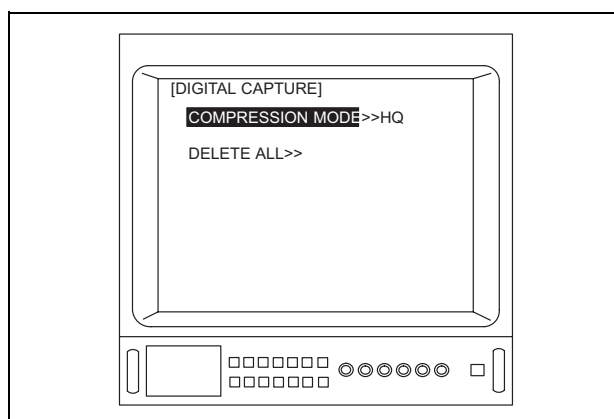

Figure 5.96
7. Depress the menu switch “↵” or the “Enter” key on the keyboard to allow adjustment of the image compression mode (see Figure 5.96).